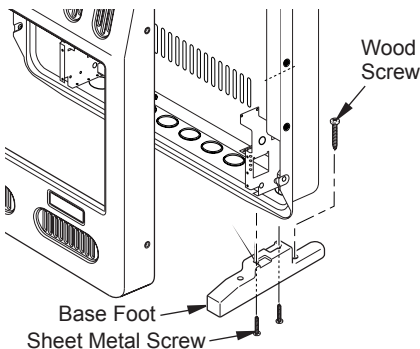

Figure 12 - Installing Base Feet (actual heater may vary from illustration)
3. Align holes in base foot with mounting holes on bottom of cabinet (see Figure 12).
4. Reposition heater with base feet over holes. Secure base to floor with wood screws. See Figure 12.